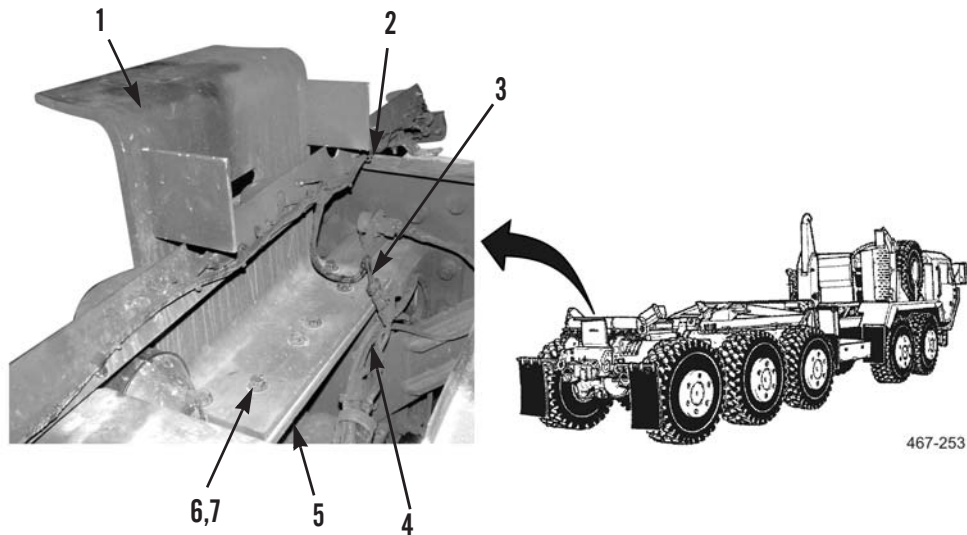

Figure 17. Light Bar and Bumper Stop Removal.
1. Disconnect light bar wiring harness (Figure 17, Item 3) from vehicle wiring harness (Figure 17, Item 4).
2. Remove rear light bar (Figure 17, Item 2) from vehicle and set aside for disassembly and reinstallation.
3. With assistance, remove six nuts (Figure 17, Item 6), bolts (Figure 17, Item 7), and bumper stop bracket (Figure 17, Item 1) from frame (Figure 17, Item 5). Set aside for reinstallation.